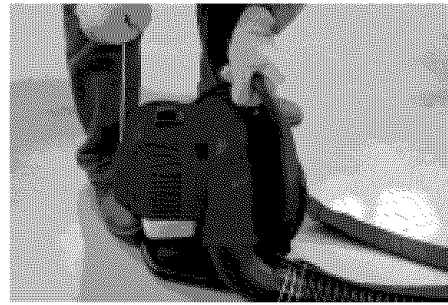

Fig. 12
4. With the unit on the ground, hold the top assist handle and step on the bottom of the frame with foot. (Figure 12)